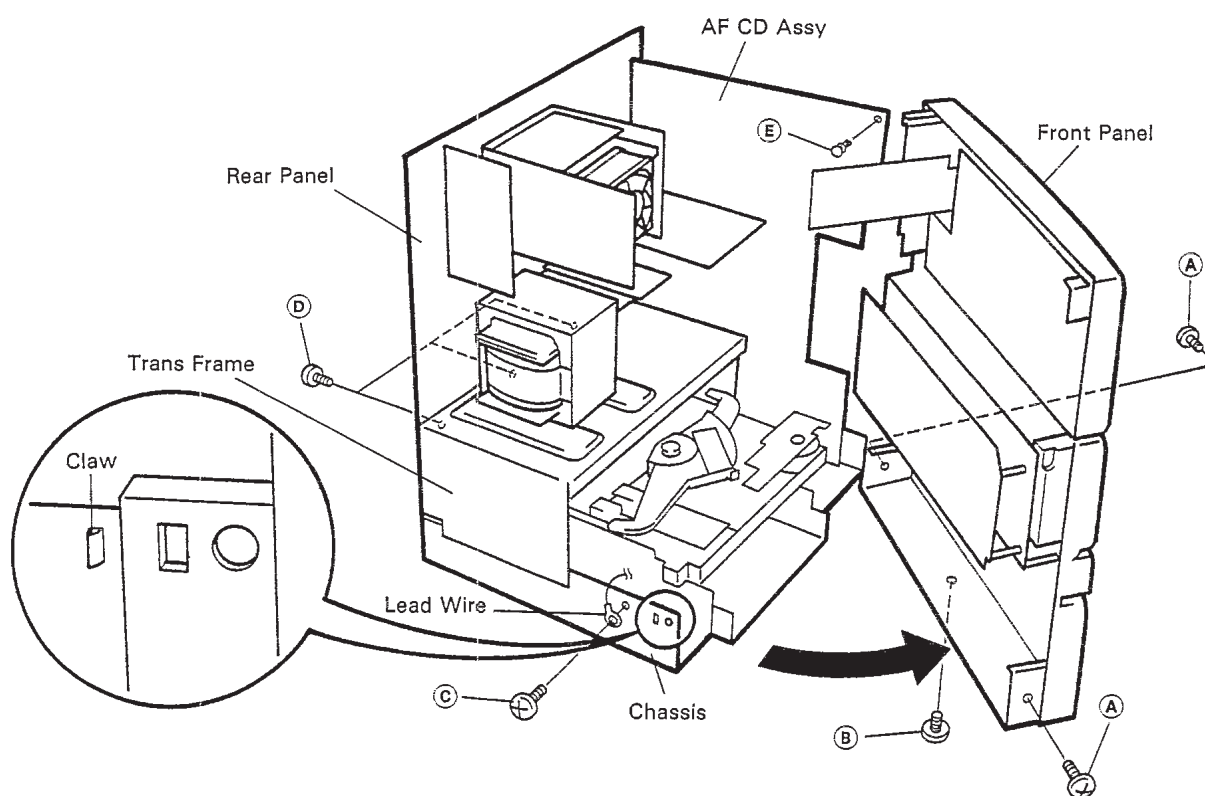

Fig. 1
5. Remove the front panel from the chassis (watching out for the claw on the left and right), and open the side of the AF CD assy. (Refer to Fig. 1)